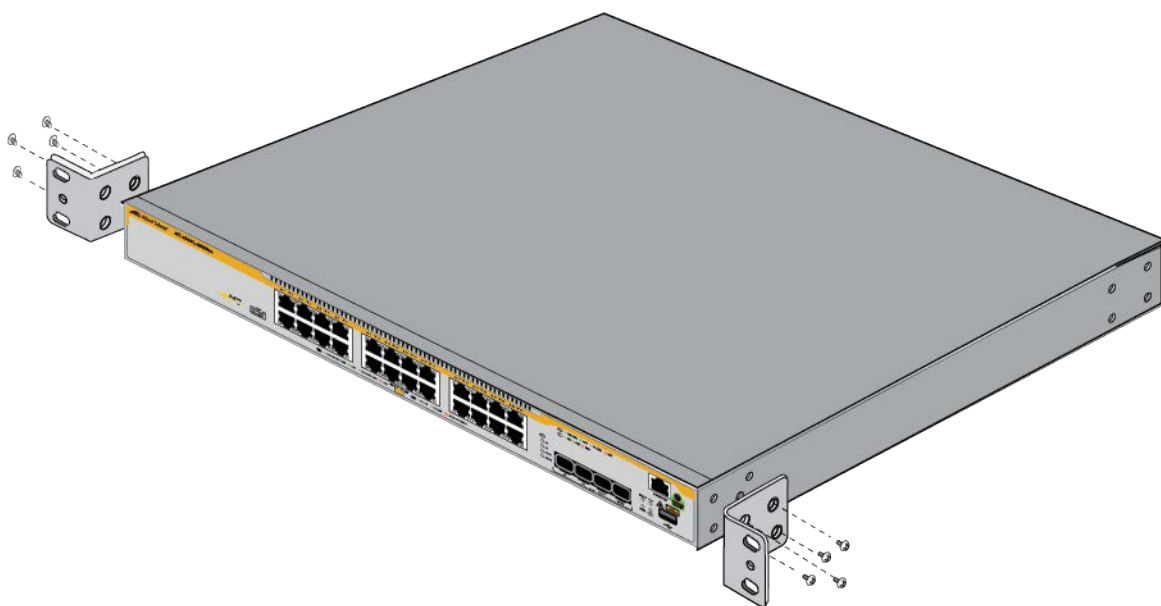

Figure 62. Attaching the Rack Mount Brackets for the x250-28XHm switch
4. Attach the rack mount brackets to the sides of the switch with the eight M3x6 screws as shown in Figure 62 on page 96.